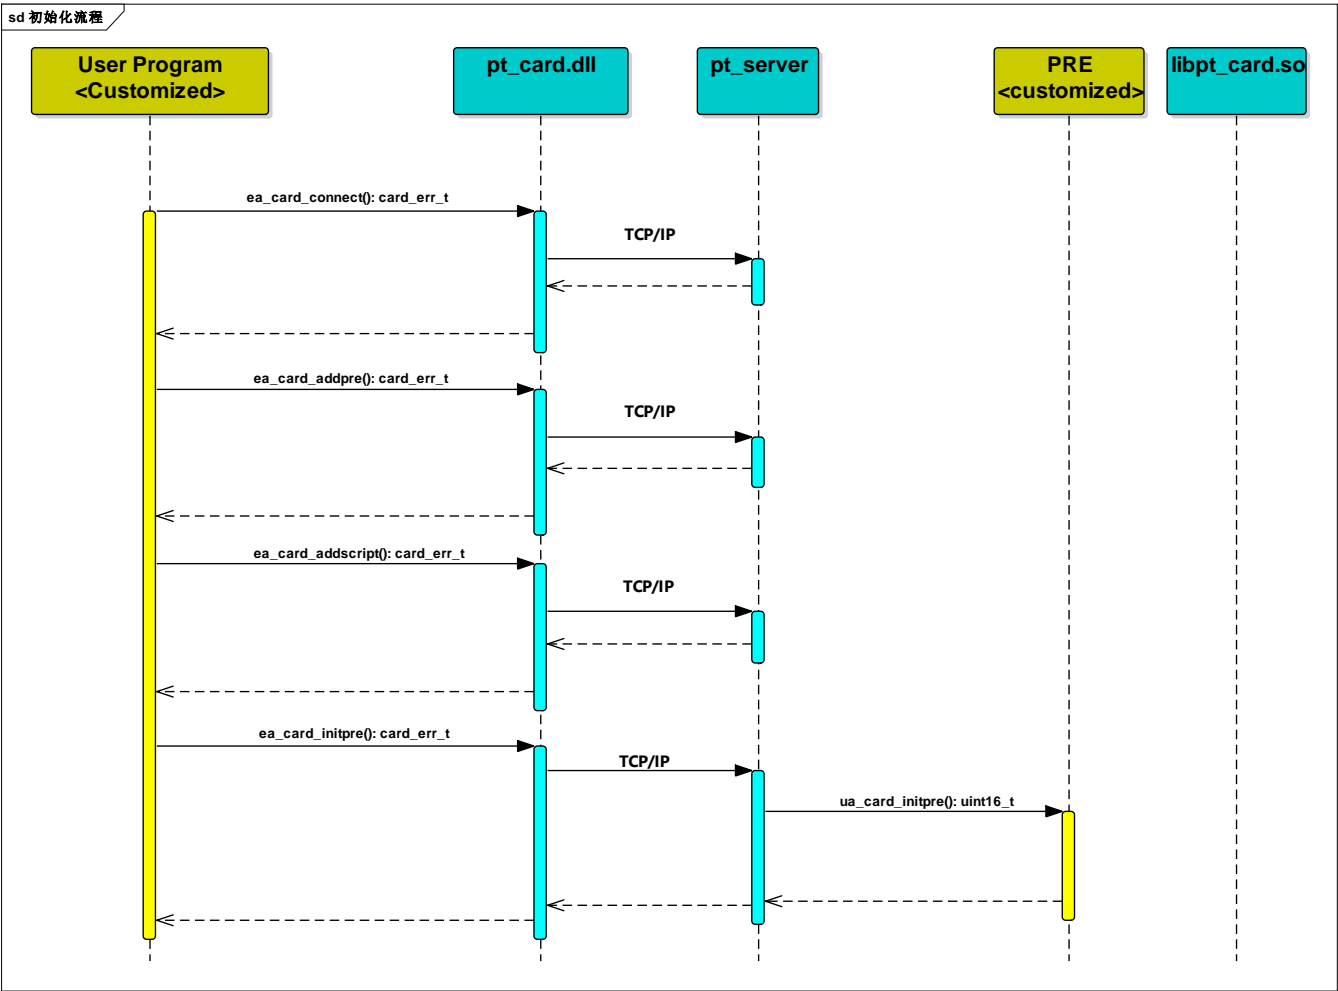

Figure 3.4 Initialization Process
- Initialization process: The user program completes the connection of the reader by calling the interface function of pt_card.dll, as shown in Figure 3.4.